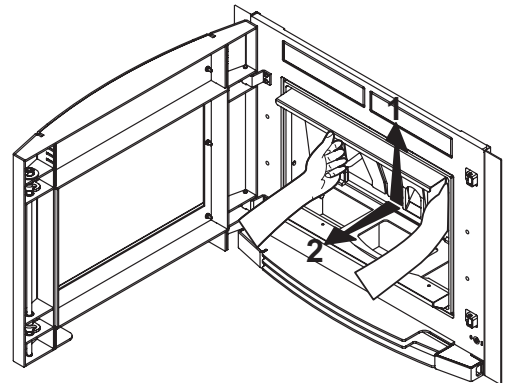

Fig.15.7
- 1) lift the cast-iron plate so that it's released from the special catches at the bottom (some models have handles to simplify removal, Fig.15.7 A);
- 2) tilt the bottom of the cast-iron plate towards the door and remove it completely. (Fig.15.7 A - B);